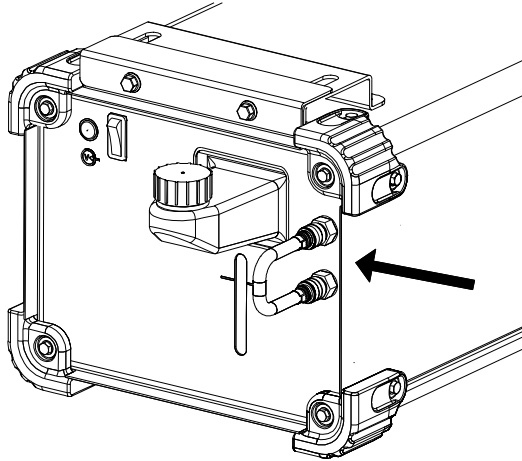

Figure 6.
- Connect the short hose with quick water connectors (included with the equipment) to the cooler's inlet and outlet sockets (Figure 6).